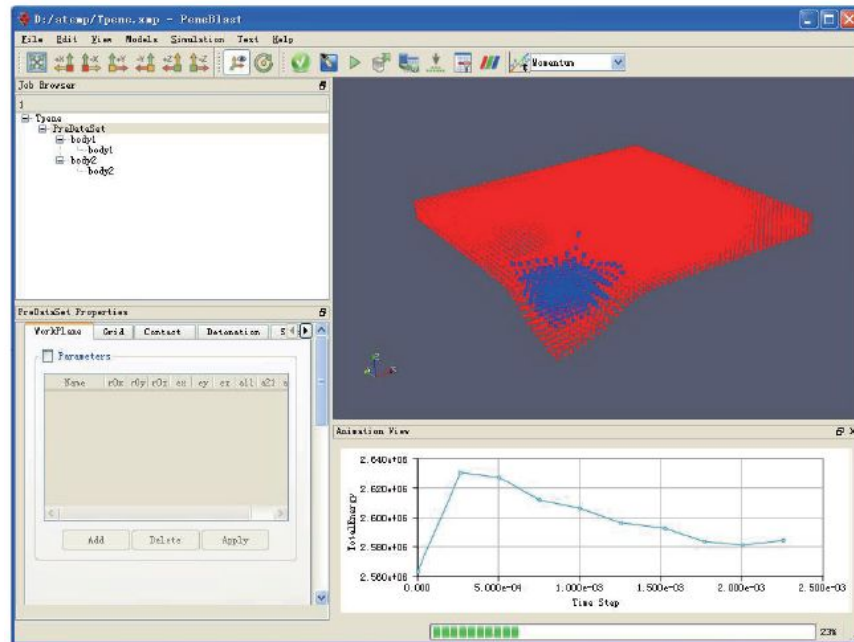

图 3.4: PeneBlast 界面实时显示计算进程
2. Click the menu bar Simulation-> Start, you can also click the button on the toolbar, PeneBlast began to enter Line of the current task of the calculation (Figure 3.4).